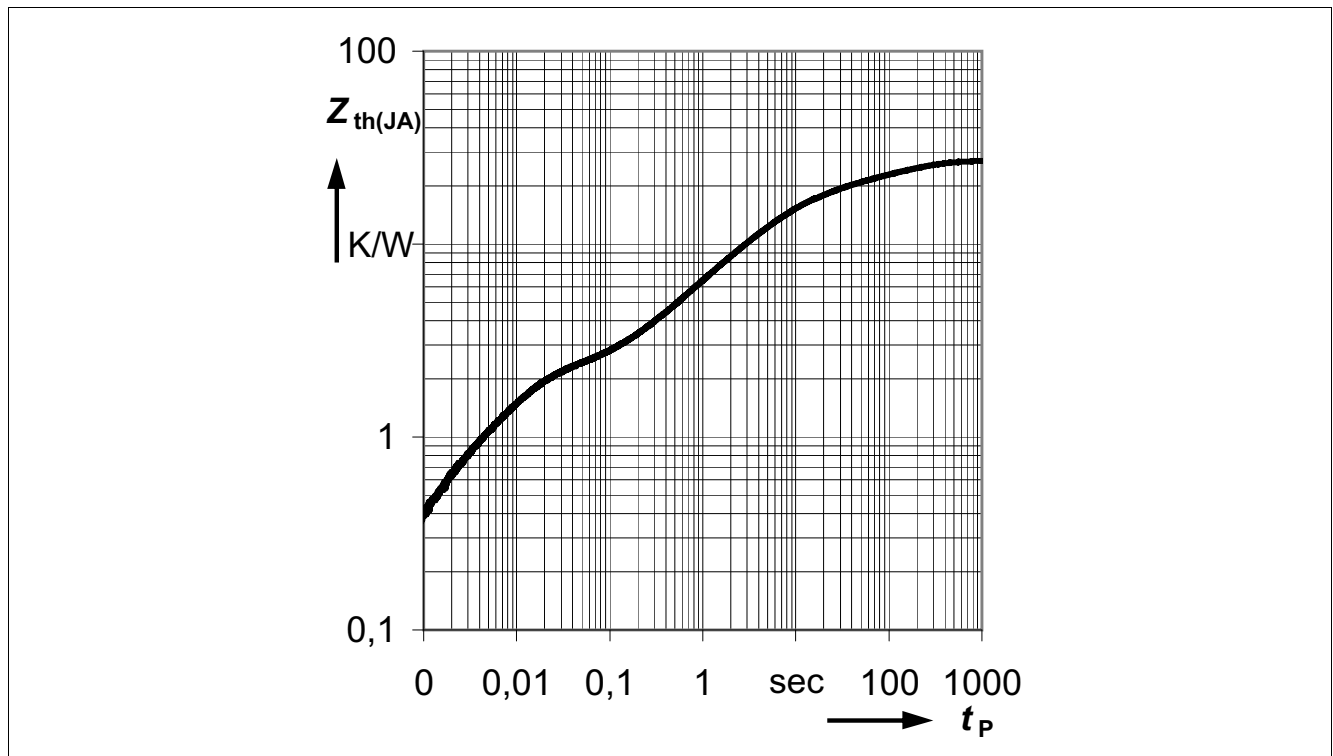

Figure 4 Transient Thermal Impedance $Z_{th(JA)}=f(t_p)$ ⁴⁾
- 4) Specified R_{thja} value and **Figure 4** are according Jecdec JESD51_7 at natural convection on FR4 2s2p board. The BTS50050-1EGA was measured on a 76.2 x 114.3 x 1.6 mm board with 2 inner copper layers (2 x 70 μ m Cu, 2 x 35 μ m Cu) applying power losses of 1.4W at the channel. According to JESD51-5 a thermal via array under the exposed pad contacted the first inner copper layer. $T_a = 25\text{ °C}$.
Figure 4 shows the typical transient thermal impedance of BTS50050-1EGA.